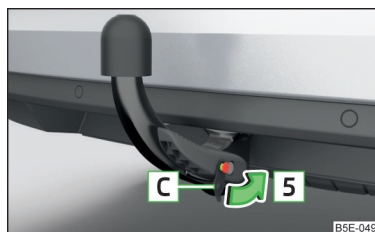

Fig. 184 Place cap on the lock
- Fit and press cap [C] onto the lock in the direction of arrow [5] » Fig. 184.